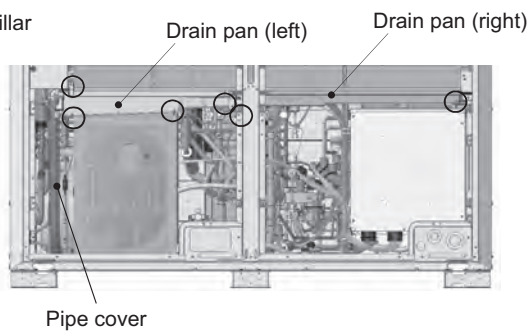

Figure 3
- (3) Remove pipe cover. (See Figure 3.)
- (4) Remove the left drain pan by unscrewing the two screws and cutting the two cable ties. (See Figure 3.)
- (5) Remove the right drain pan by unscrewing the 2 screws. (See Figure 3.)